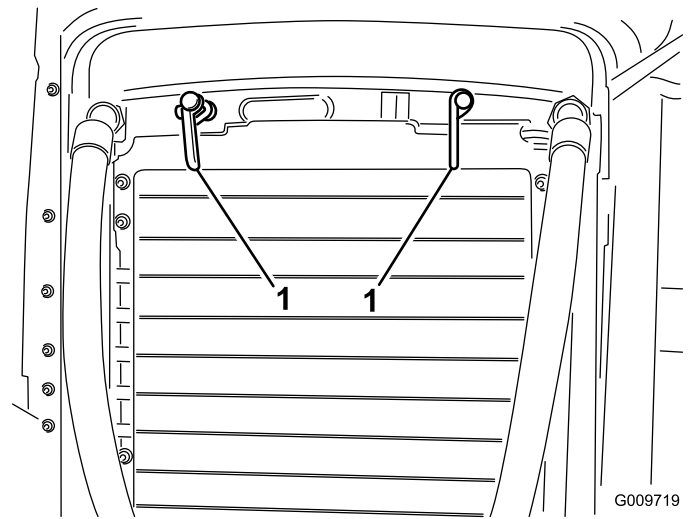

Figure 57
2. Rotate the latches (Figure 57) securing the oil cooler to the frame.